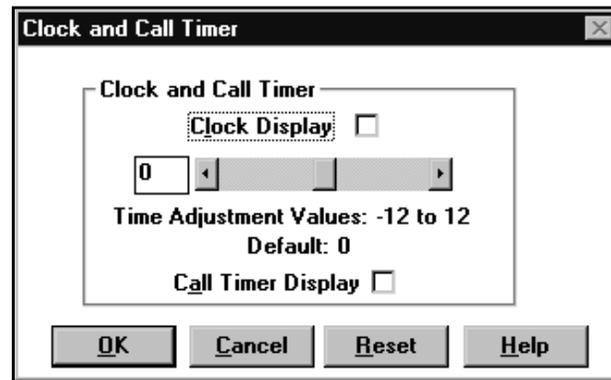

FIGURE 77. Clock and Call Timer dialog box
1. In the configuration window, select Clock and Call Timer. (See Figure 77.)